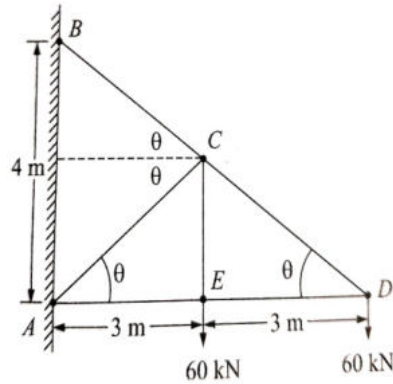

Figure 4.
5. Determine the forces in all members of the truss shown in figure 4, by using method of joints. Indicate them on the sketch of the truss. [14M]